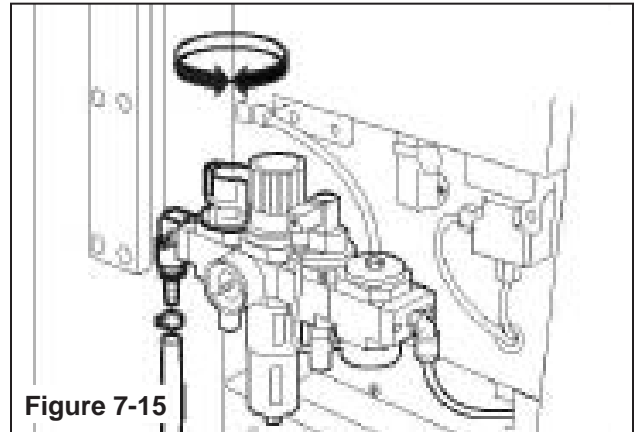

Figure 7-15
- Give air to the machine with the ON/OFF valve (**Figure 7-15**).